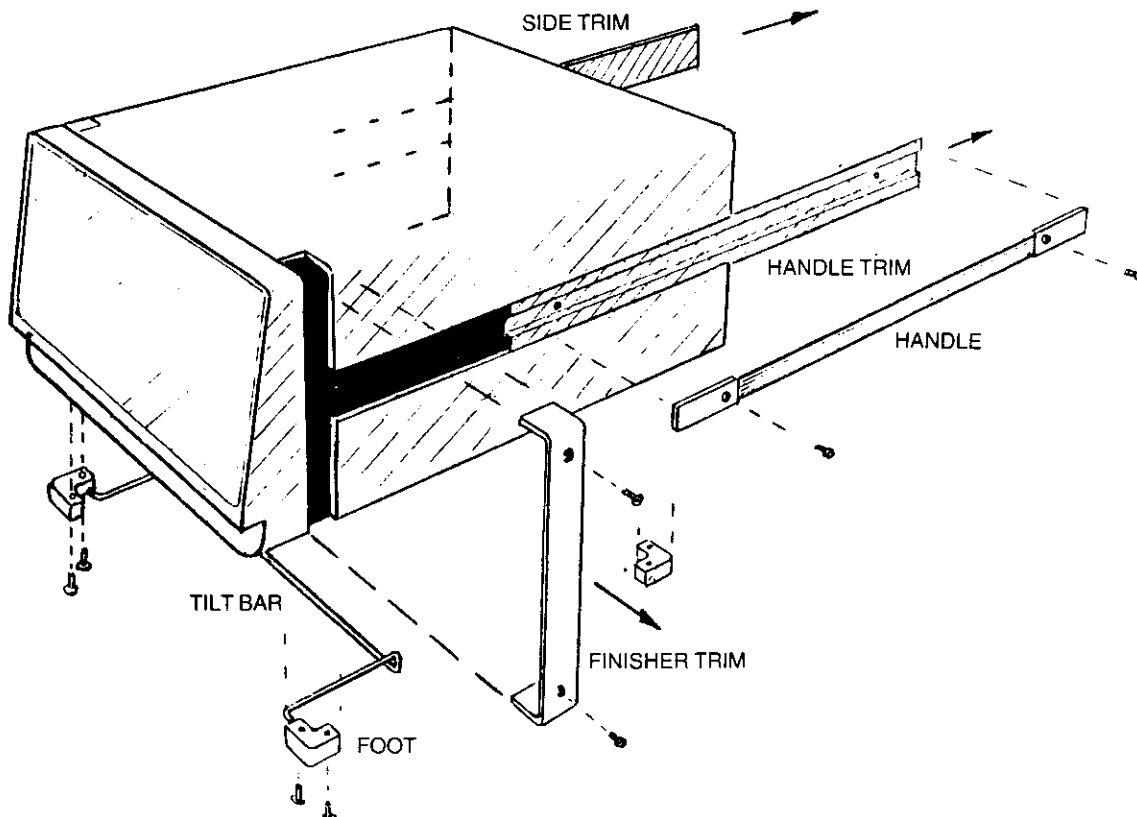

Fig. 2.2 Removal of items to be fitted to the rack
1. Remove the following items from the unit, as shown in Fig. 2.2: